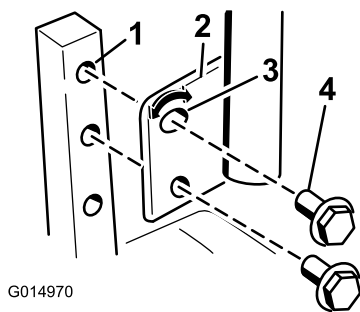

Figure 24
1. Remove the 2 bolts holding the control lever to the control arm shaft (Figure 24).
2. Move the control lever to the next set of holes. Secure the lever with the 2 bolts (Figure 24).
2. Loosen the lower bolt just enough to pivot the control lever fore or aft (Figure 24). Tighten both bolts to secure the control in the new position.